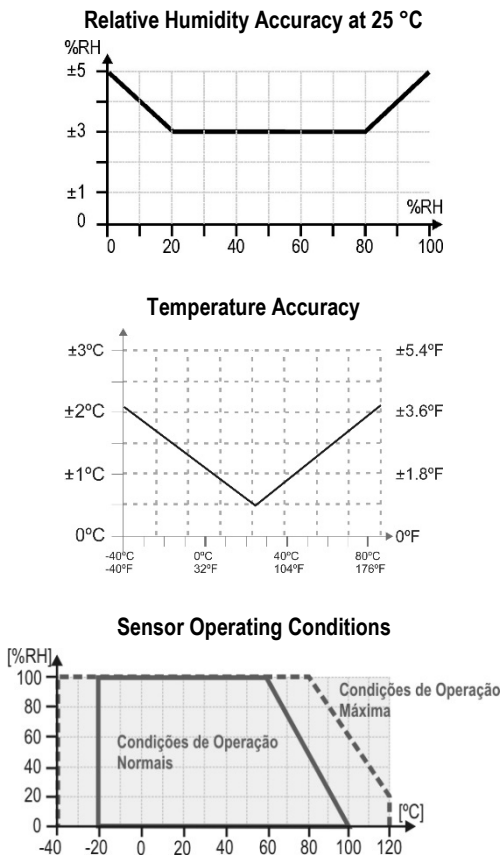

Figure 1 – RH and temperature accuracies
- Accuracy:** Refer to Fig. 1;